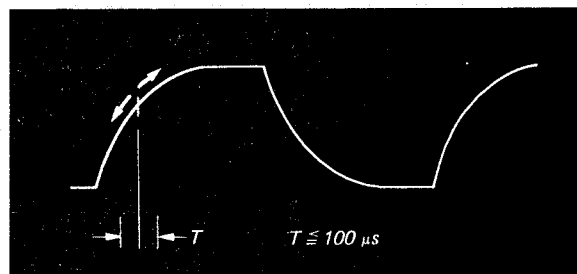

Fig. 7-7.
2. Check that gate pulse locks at TP-405 in the range of less than 100 μ sec. See Fig. 7-7.